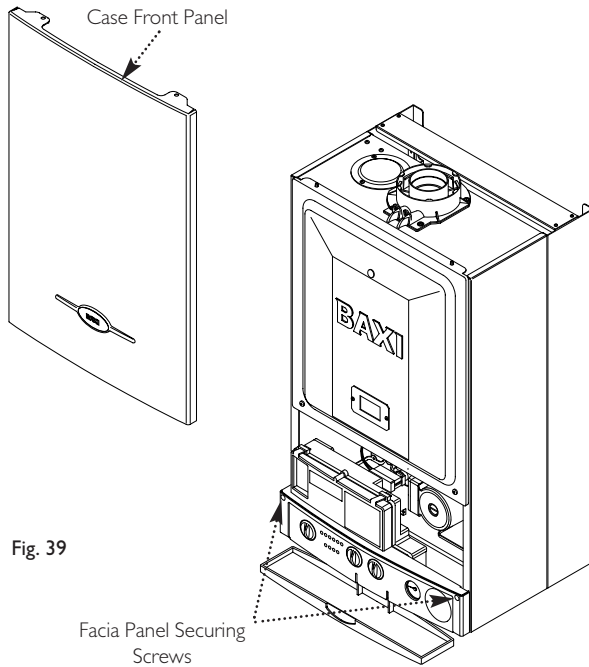

Fig. 39
5. Slacken the screws securing the fascia panel. Lift the outcase panel so that its securing tabs are clear of the fascia. Remove the panel (Fig. 39).